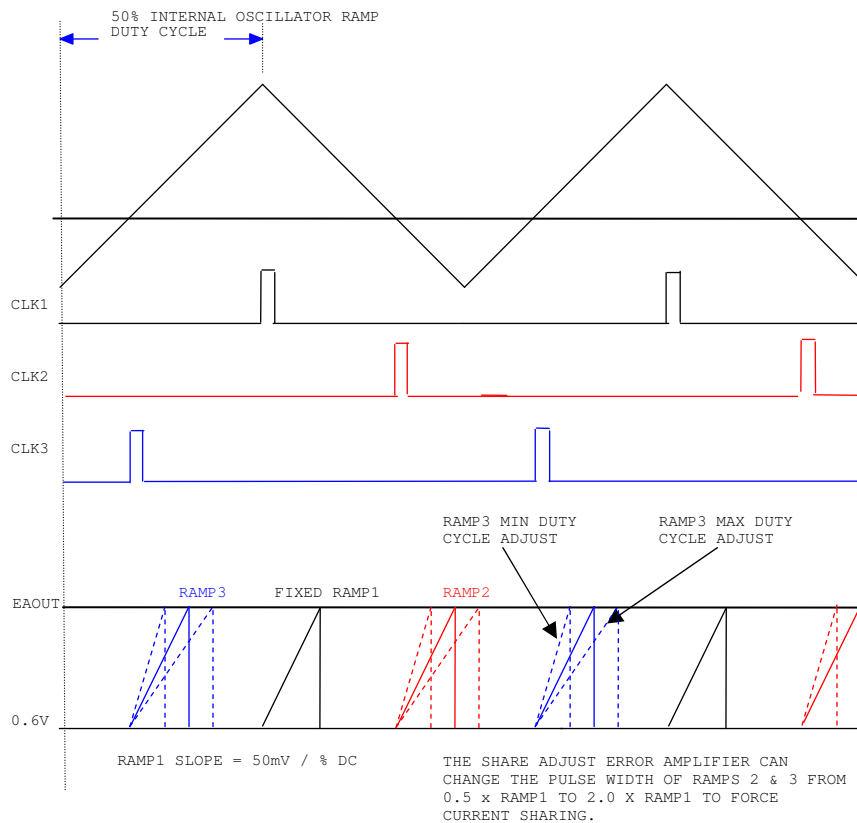
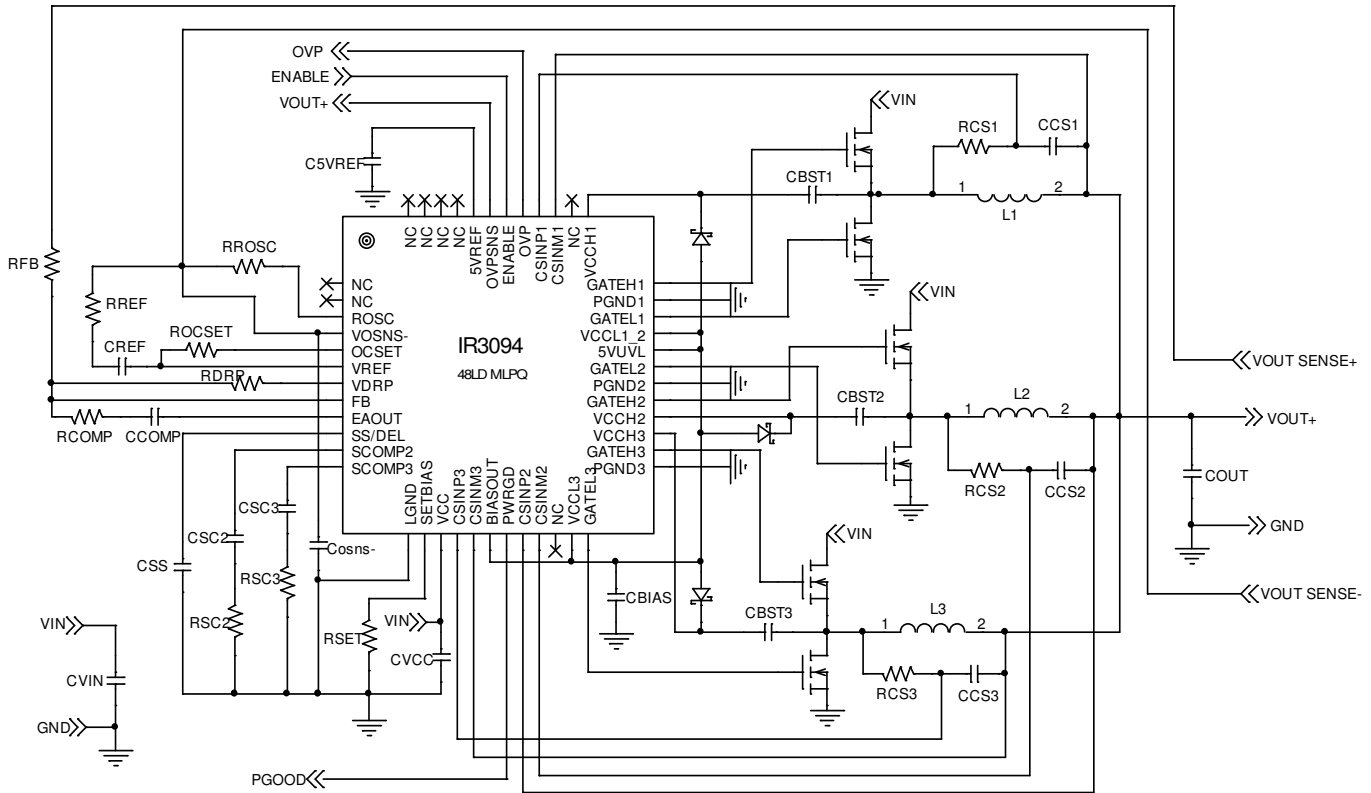

Figure 3 – 3 Phase Oscillator and PWM Waveforms
Figure 6 – System Diagram
Refer to Figure 3. Upon receiving a clock pulse, the RSFF is set, the internal PWM ramp voltage begins to increase, the low side driver is turned off, and the high side driver is then turned on. For phase 1, an internal 9pf capacitor is charged by a current source that proportional to the switching frequency resulting in a ramp rate of 50mV per percent duty cycle. For example, if the steady-state operating switch node duty cycle is 10%, then the internal ramp amplitude is typically 500mV from the starting point (or floor) to the crossing of the EAOUT control voltage. When the PWM ramp voltage exceeds the Error Amplifier's output voltage, the RSFF is reset. This turns off the high side driver, turns on the low side driver, and discharges the PWM ramp to 0.6V until the next clock pulse.
The oscillator frequency is programmable from 100kHz to 540kHz with an external resistor RROSC as shown in Figure 6. The Oscillator generates an internal 50% duty cycle sawtooth signal (Figure 3.) that is used to generate 120° out-of-phase timing pulses to set Phase 1,2 and 3 RS flip-flops. Once the switching frequency is chosen, RROSC can be determined from the curve in the Typical Operating Characteristics Section.
The inductor DC resistance R_L is utilized to sense the inductor current. The current limit threshold is set by a resistor R_{OCSET} connected between the OCSET and VREF pins, as shown in Fig6. I_{LIMIT} is the required over current limit. I_{OCSET} , the bias current of OCSET pin, is set by R_{ROSC} and is determined by the curve in the Typical Operating Characteristics Section. OCP need to satisfy the high temperature condition. R_{L_MAX} and R_{L_ROOM} are the inductor DCR at maximum temperature T_{L_MAX} and room temperature T_{ROOM} respectively, the maximum inductor DCR can be calculated from Equation (9)
The voltage at the VDRP pin is an average of three phase Current Sense Amplifiers and represents the sum of the VREF voltage and the average inductor current of all the phases. The VDRP pin is connected to the FB pin through the RDRP resistor, see figure 6. The Error Amplifier forces the voltage on the FB pin to equal VREF through the power supply loop therefore the current through RDRP is equal to (VDRP-VREF) / RDRP. As the load current increases, the VDRP voltage increases accordingly which results in an increase in RFB current, positioning the output regulated voltage lower thus making the output voltage reduction proportional to an increase in load current. The droop impedance or output impedance of the converter can thus be programmed by the resistor RDRP. The offset and slope of the converter output impedance are independent of the VREF voltage.
The maximum and minimum duty cycle adjust range of Ramps 2 & 3 compared to Ramp1 has been limited to a minimum of 0.5x and a maximum of 2.0x typical (see Figure 3.). The crossover frequency of the current share loop can be programmed with a capacitor at the SCOMPX pin so that the share loop does not interact with the output voltage loop.